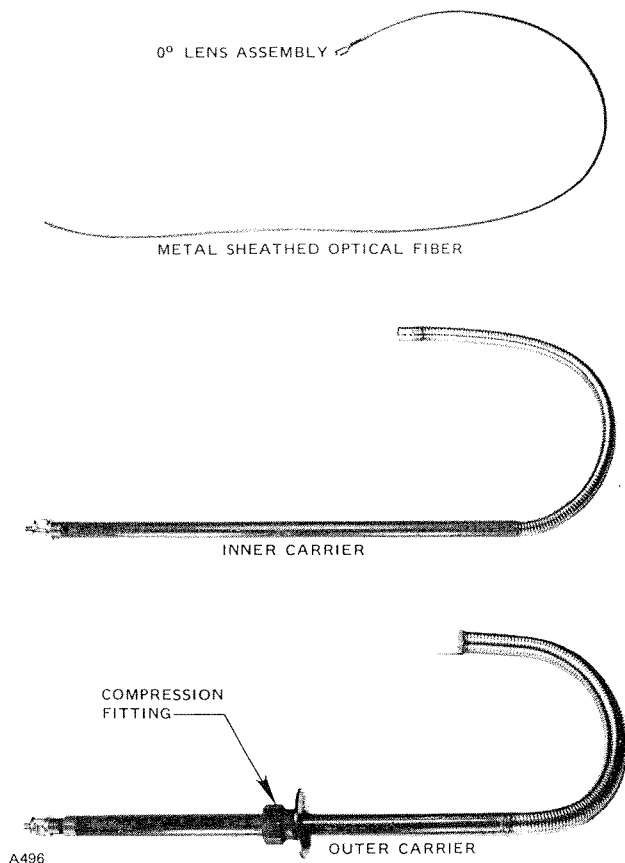

Figure 7—Components of Fiber Optic Link
2. Disassemble flame scanner parts. Figure 7 illustrates the components of the fiber optic link. Unclamp the rear part of the casting and pull inner carrier completely out of outer carrier. Unscrew the front part of the casting from the outer carrier. Remove compression fitting from around the outer carrier. Actual welding and fitting of the scanner requires only the outer carrier and the compression fitting.